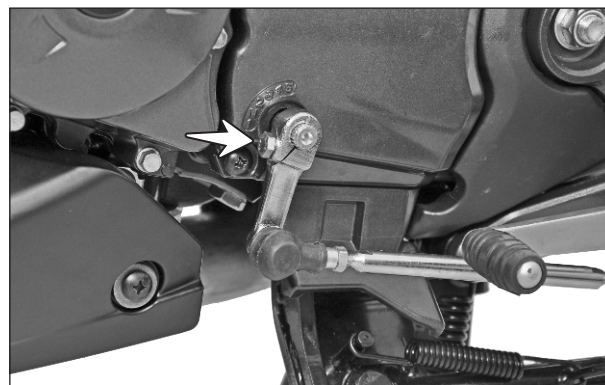

Fig. 2.101
- Remove the hexagonal bolt (M6x20) from the gear shift linkage assembly and dislocate the gear shift linkage from the shaft gear shift. (Fig. 2.101)